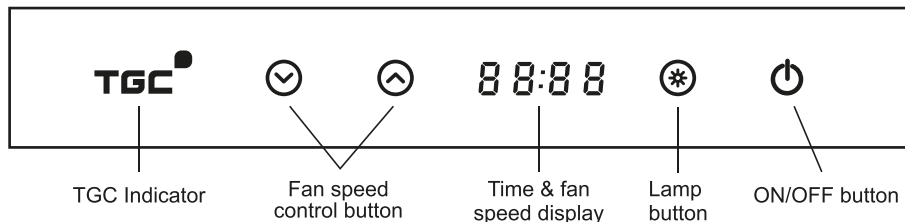

Fig. 6-1
- 1) Switch on power supply, the ON/FF button and display will illuminate. (Fig. 6-1)